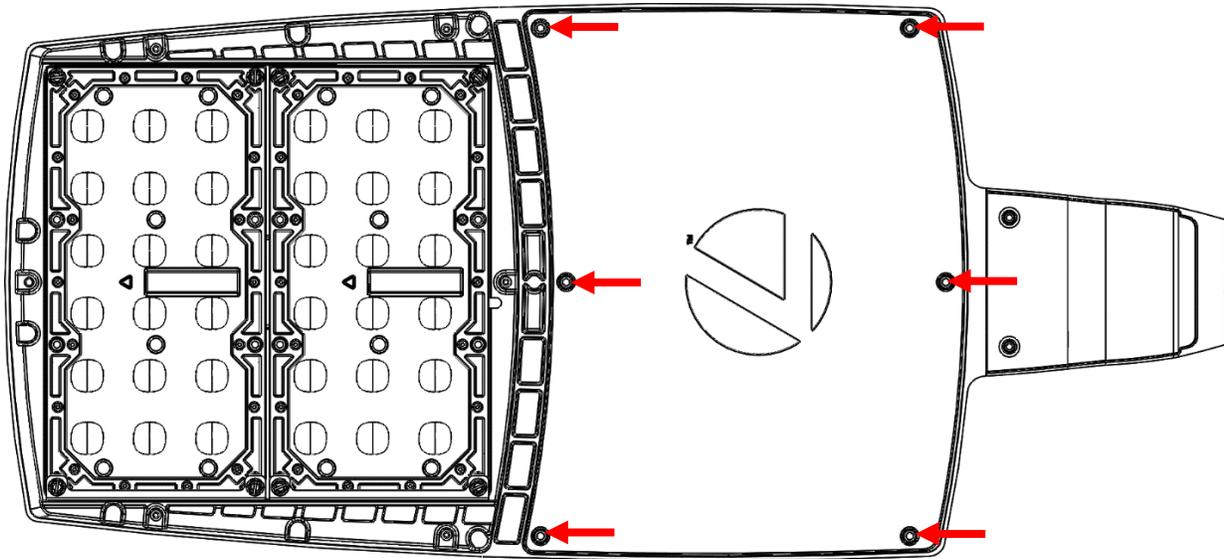

Figure 1 – RSX door screws. RSX2 shown.
Step 1: Door removal. Loosen all #10 socket cap screws attaching the door to the housing as shown in figure 1. On RSX1, RSX2, and RSX3 there are 6 screws, RSX4 has 8 screws attaching the door to the housing. All screws are designed to be captive. Do not purposely remove them from the door or dispose of them, they are required to reattach the door later.